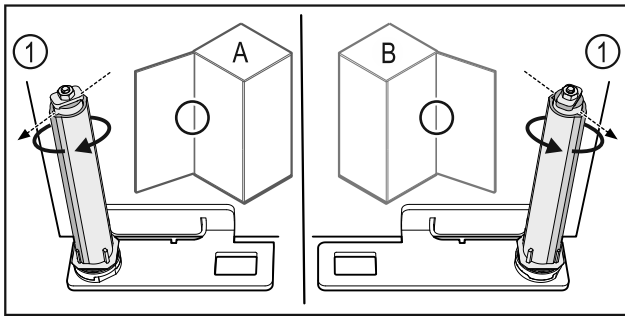

Fig. 59 Left-hinged (A) / Right-hinged (B)
- Turn the closing system against the resistance until the bar of the closing system Fig. 59 (1) points outwards.